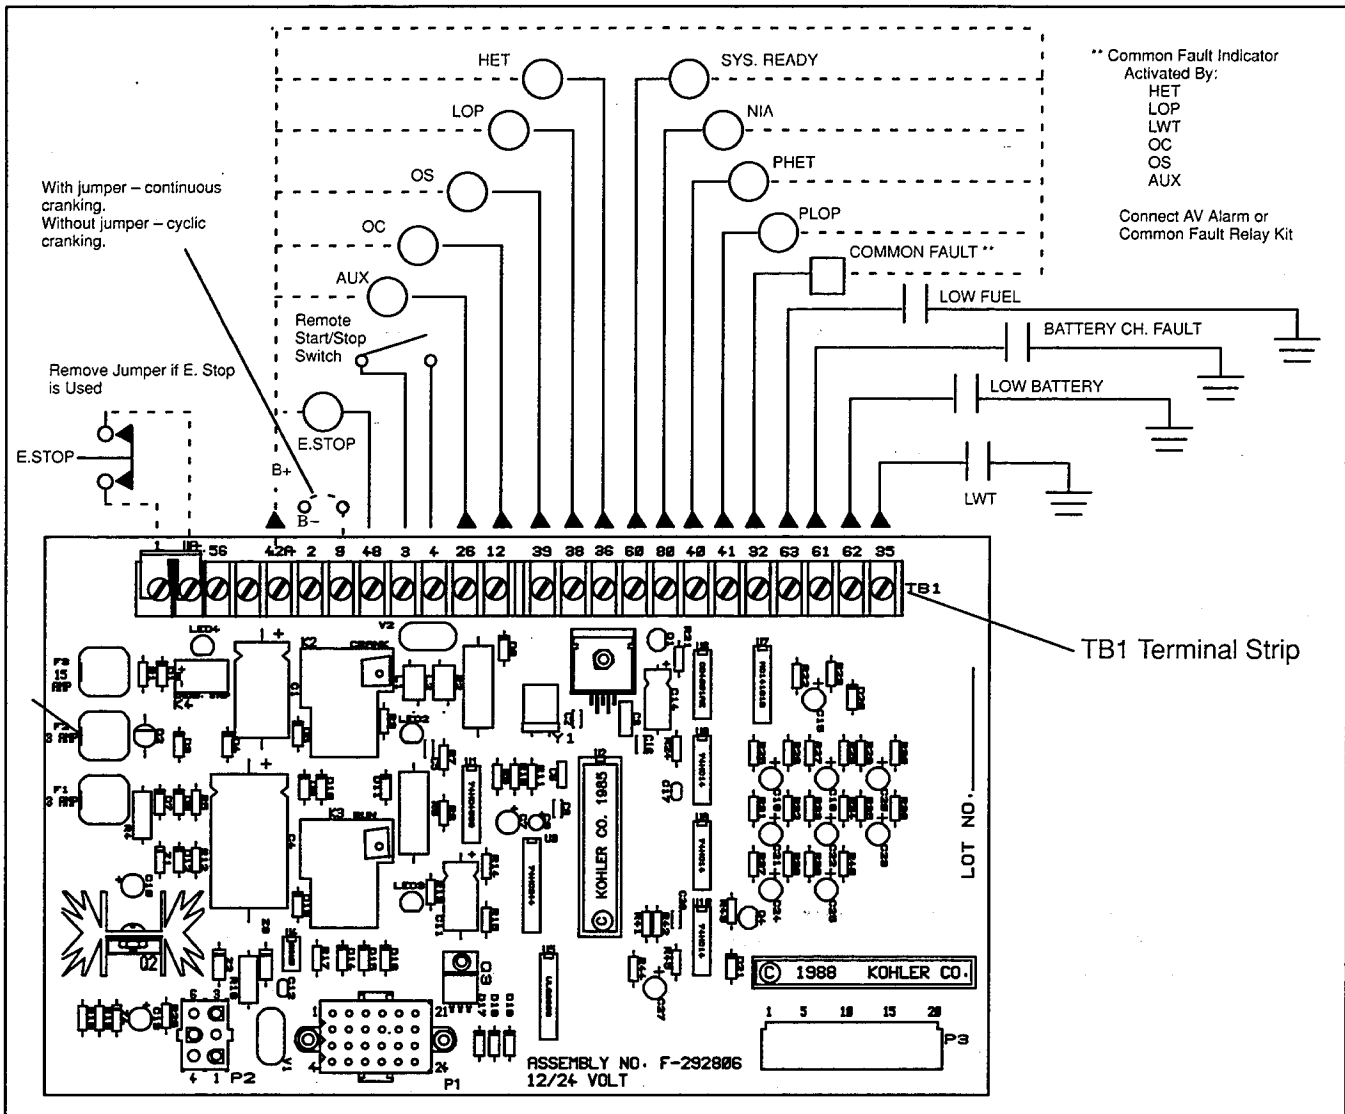

Figure 2-3. Controller TB1 Terminal Strip
20. **Controller TB1 Terminal Strip** — allows connection of generator accessories such as emergency stop switch, remote start/stop switch, audio-visual alarms, etc. Crank mode selection (cyclic or continuous) is also made on the TB1 terminal strip. Refer to Figure 2-3 for identification of TB1 terminals and connection of accessories.